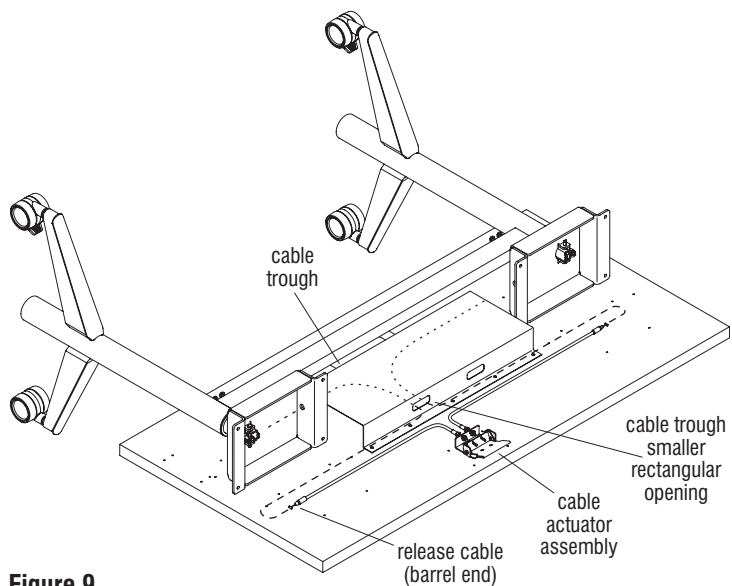

Figure 9
20. Guide the barrel end of each cable into the smaller rectangular opening on the cable trough, closest to the cable actuator assembly. Then route the barrel end of the release cable in the leftmost hole on the actuator bracket out the left end of the cable trough, and the rightmost cable's barrel end out the right end of the cable trough (Figure 9 & Details J & K).